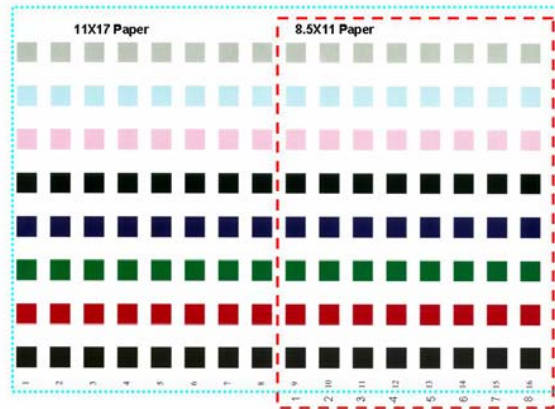

Figure 1 Test Pattern 124
7. Select **[Print]** to output the Test Pattern (Figure 1).